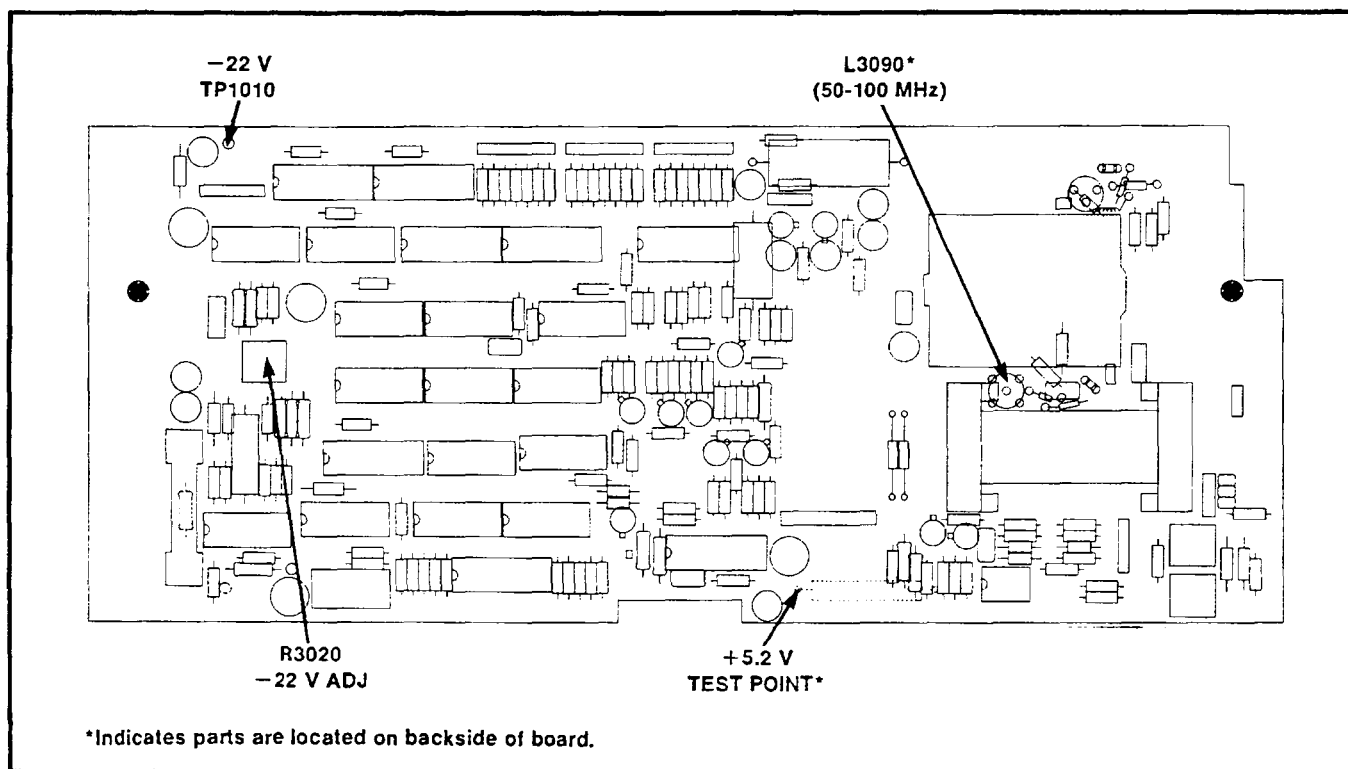

Fig. 3-1. Location of test points, L3090, and -22 volt adjustment.
a. Connect the digital voltmeter between the -22 V test point on the Main circuit board, and chassis ground. See Fig. 3-1 for voltage test point location.
c. Adjust -22 V adj, R3020, for a meter reading of -22 volts. See Fig. 3-1 for adjustment location.
a. Connect the digital voltmeter between the +5.2 V test point on the Main circuit board, and chassis ground. See Fig. 3-1 for voltage test point location.